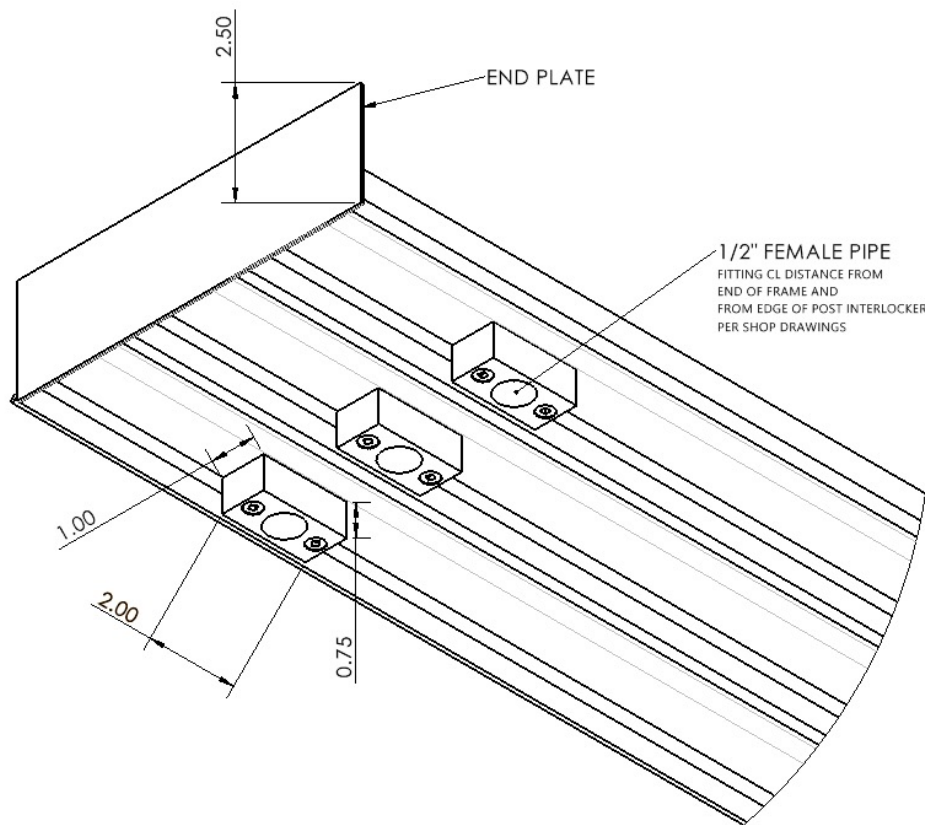

Figure 4
- Bottom Drain Fitting Sill (See Figure 4).
NOTE: pocketing doors should not have drain fittings or weeps located in the pocket area of the sill. Be sure to leave adequate clearance for a drain line and fitting for each track. (See Figure 4).